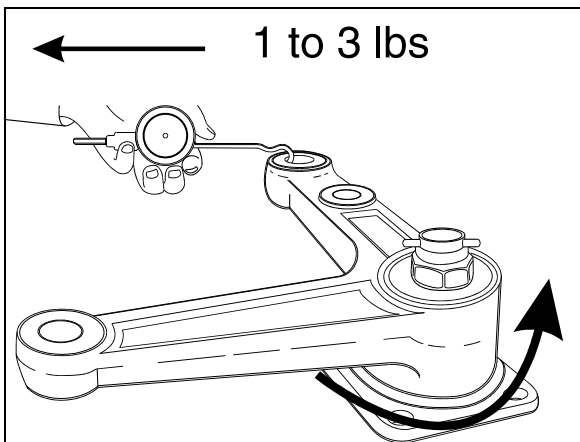

FIGURE 26: BELL CRANK 16045
4. Unscrew nut until bell crank or idler arm starts to turn by the application of 1 to 3 pounds load (Fig. 26).